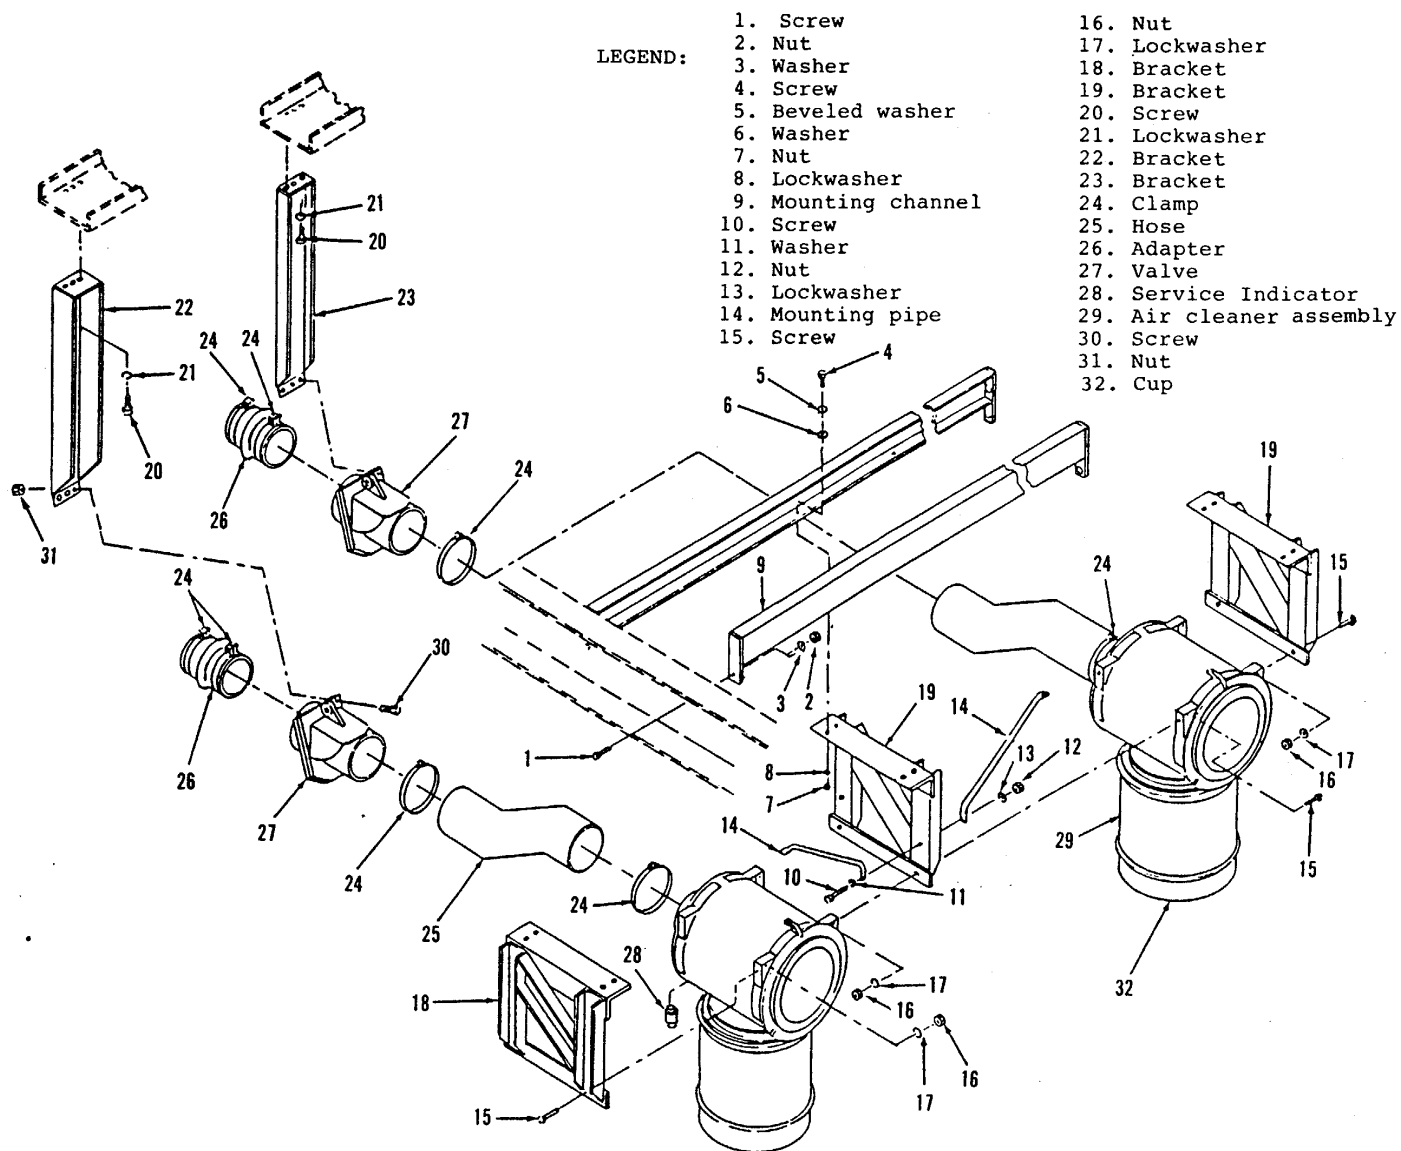

Figure 4-23. Air Cleaner and Related Parts
4-42. AIR CLEANER. (See figure 4-23.)
(7) Replace defective gaskets or O-rings.
(8) Replace primary filter element (4), gasket (2), secure with wing nut (3), and secure cover (1) with cover latches.
(9) Reset service indicator to green.
d. Replacement of Indicator. Remove the indicator (28, figure 4-23) by unscrewing it from the air cleaner assembly. Screw a new indicator in place.
(1) Be sure hose clamps (24) are in their proper location as shown in figure 4-23.
(2) Attach air cleaner (29) to mounting brackets (18 and 19) with six screws (15), lockwashers (17) and nuts (16).
(3) Attach hoses to air cleaner and tighten hose clamps (24).
4-43. AIR SHUT-OFF VALVE. (27, figure 4-23.)